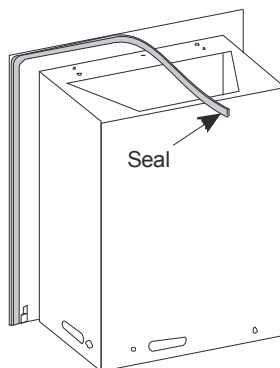

Figure 68
4. Apply the sealing strip around the rear edge of the Thermobox flange (See **Figure 68**). **If installing the Thermobox into a Freedom Surround do NOT apply this seal.**